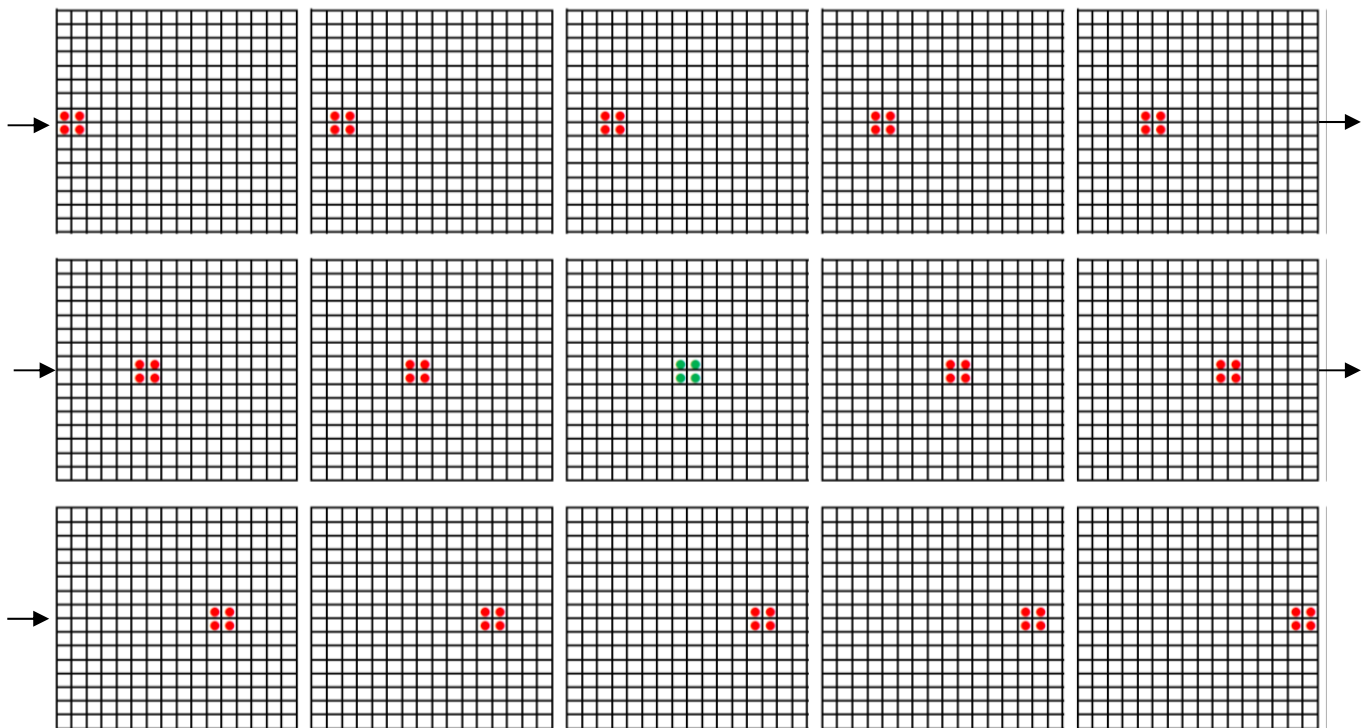

Figure 4. $Y_{out} = 0g$, X_{out} from $-1g$ to $+1g$
- (3) When $Y_{out} = 0g$, the bubble should move to correct position smoothly following the PCB tilt angle (X_{out}), as shown in Figure 4.